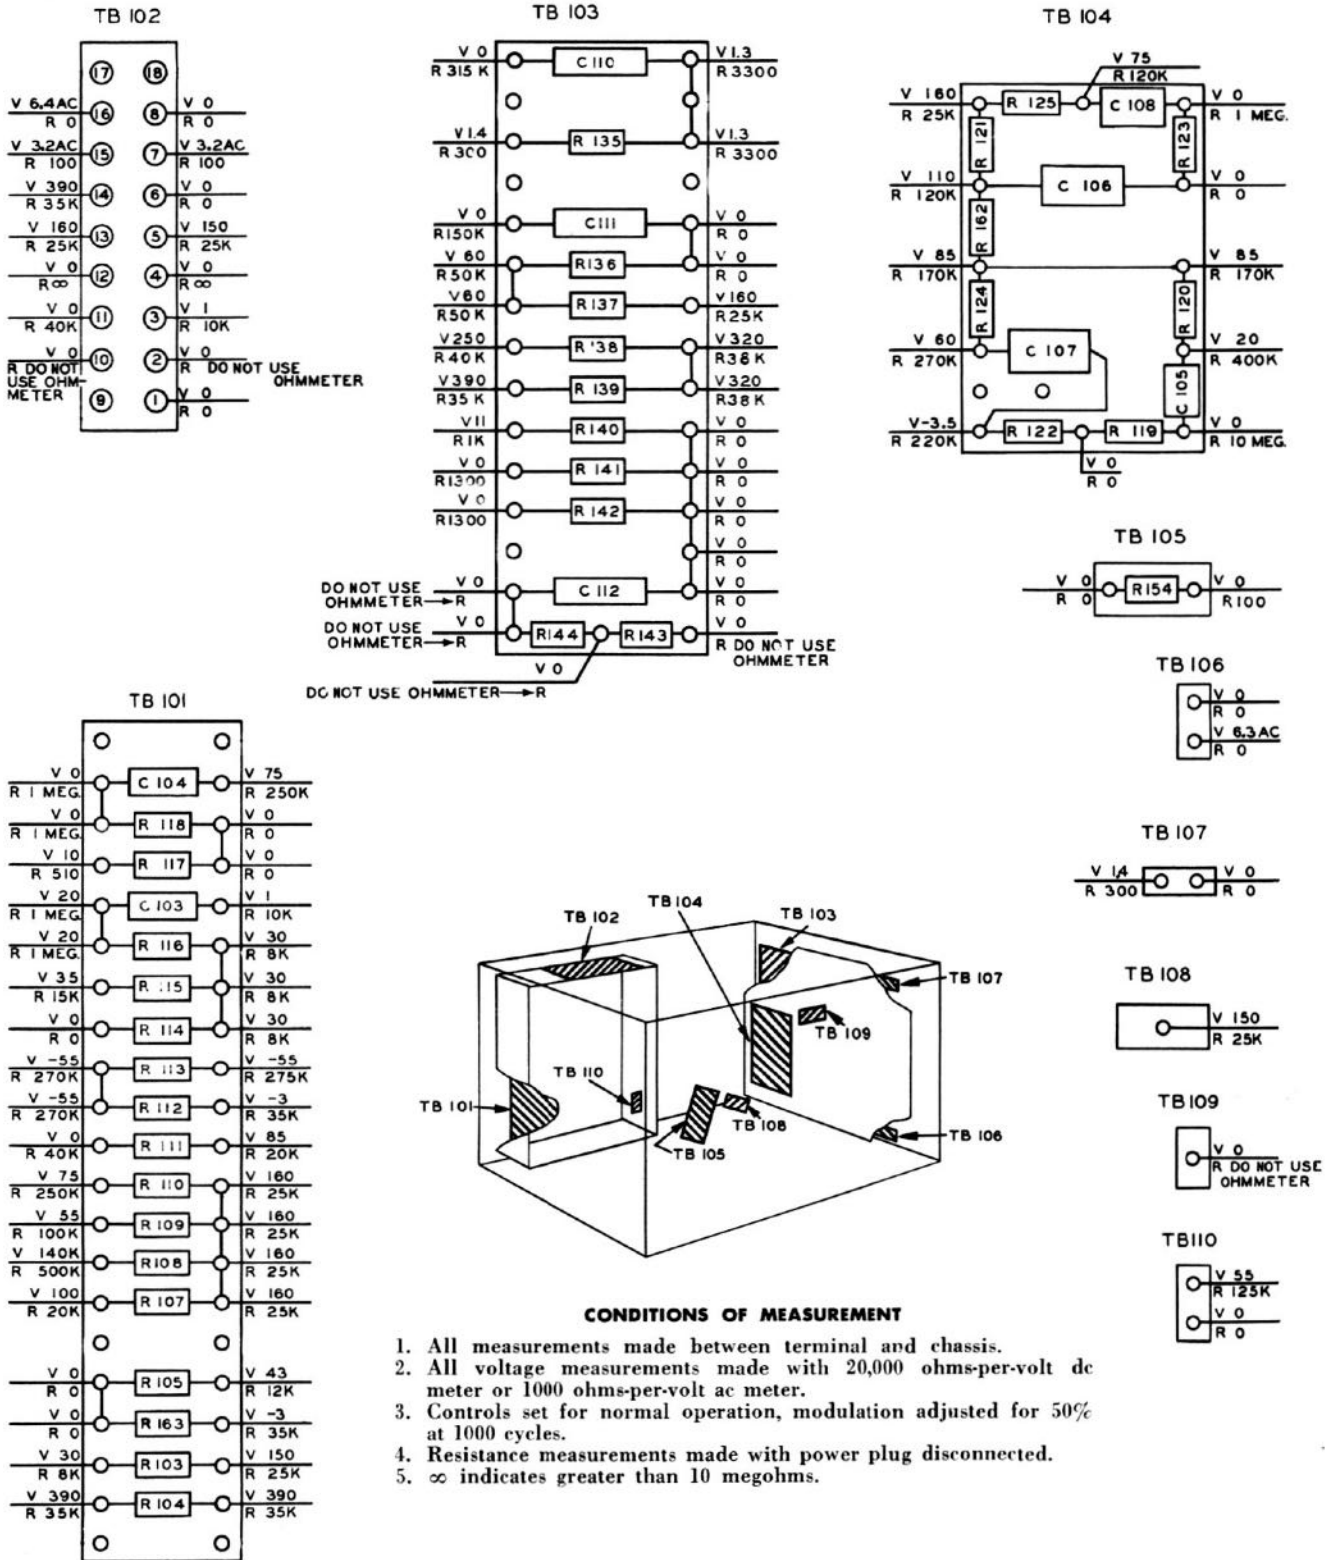
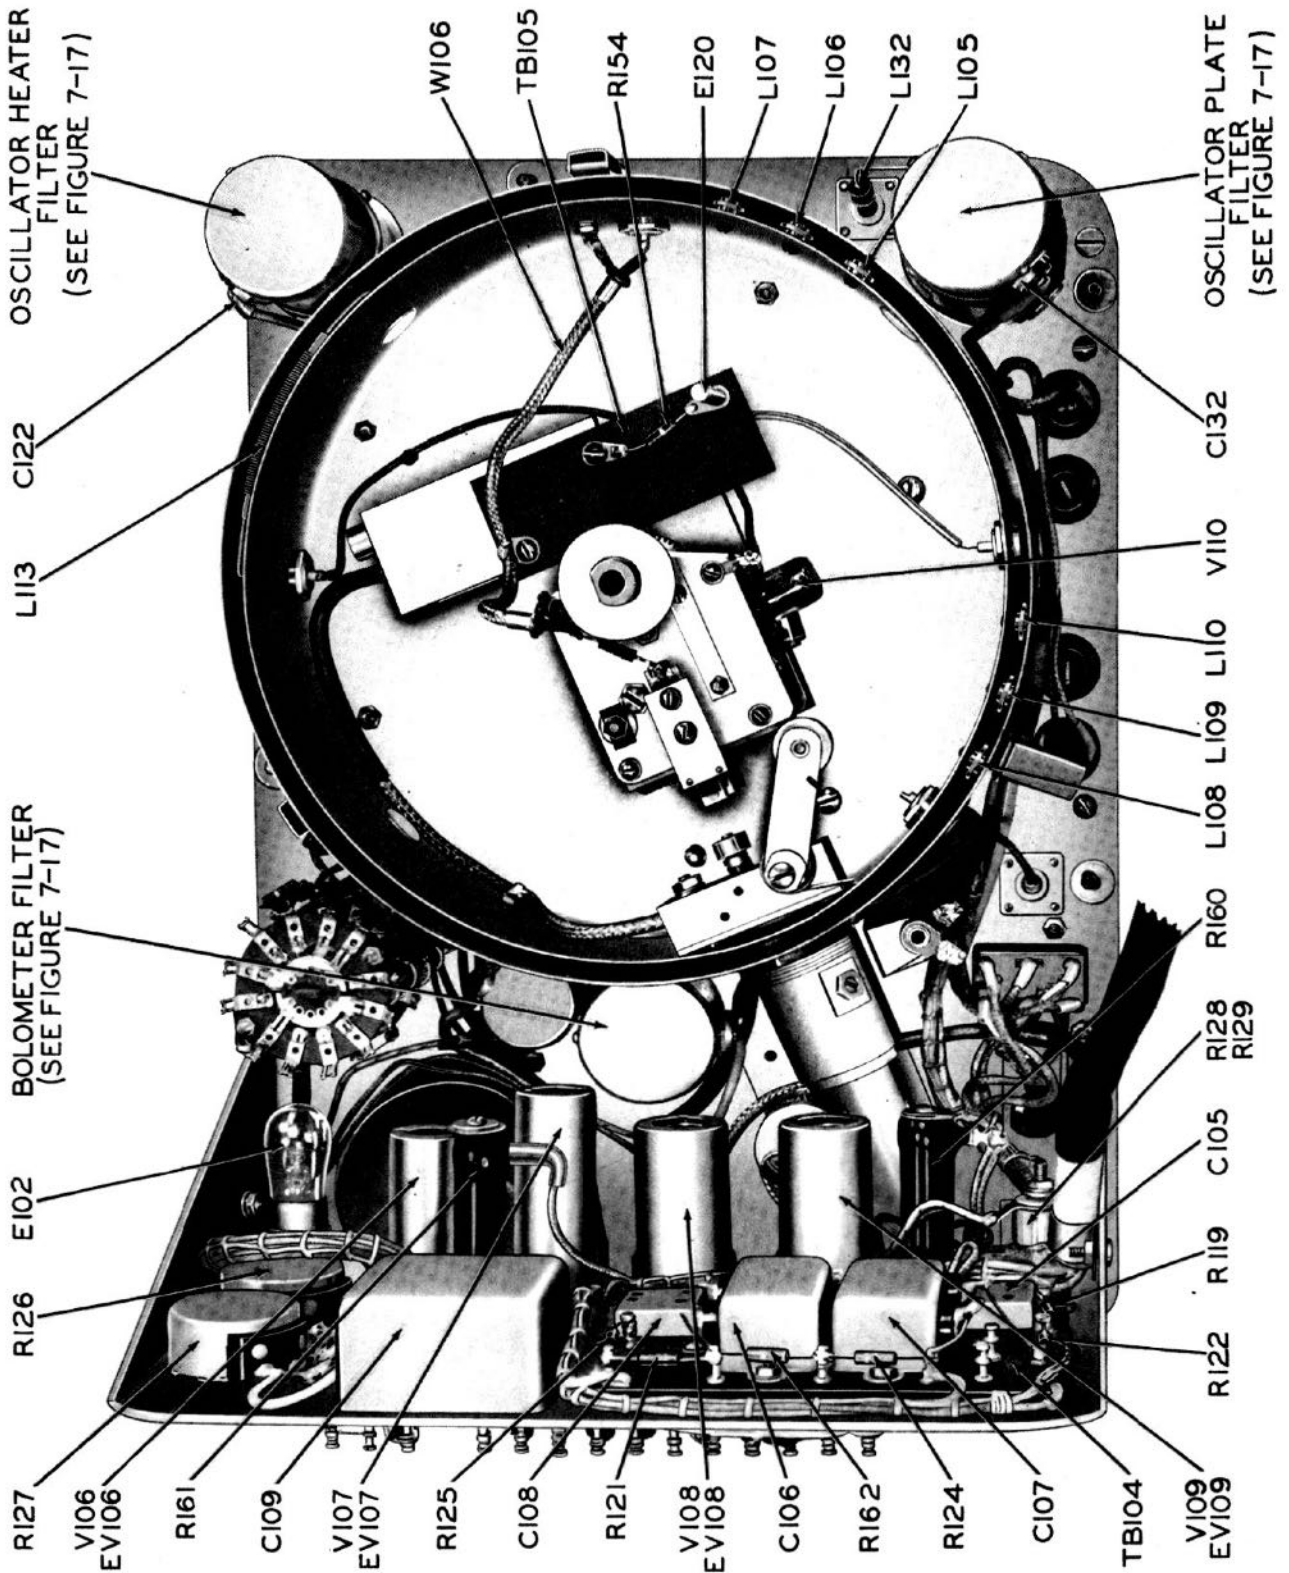

Figure 7-1. Voltage, Resistance and Parts Location of Terminal Boards
Figure 7-3. RF Signal Generator SG-45A/URM-26, Rear View
c. TEST POINTS: Voltage and resistance data are shown in Figures 7-1 and 7-2. Locations of circuit components are shown in figures 7-3, 7-4, 7-5, and 7-6.
c. Connect an accurate dc voltmeter, such as Multimeter AN/PSM-4, and an ac vacuum tube voltmeter, such as Multimeter ME-25A/U, between ground and capacitor C-132, see figure 7-3.
(1) Voltage between C-132 and ground should be approximately 150 volts dc. If necessary readjust plate voltage in manner described in paragraph 2 of this section.